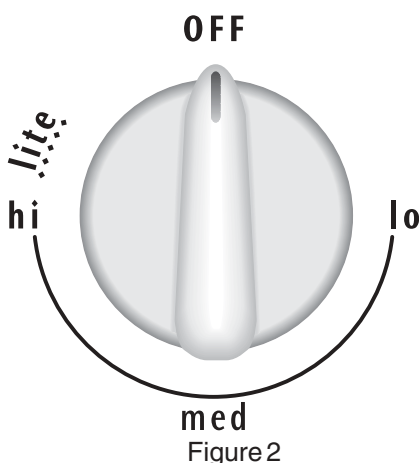

Figure 2
3. Release the knob and rotate to the LITE position (see figure 2). Note: All four electronic surface ignitors will spark at the same time. However, only the burner you are turning on will ignite.